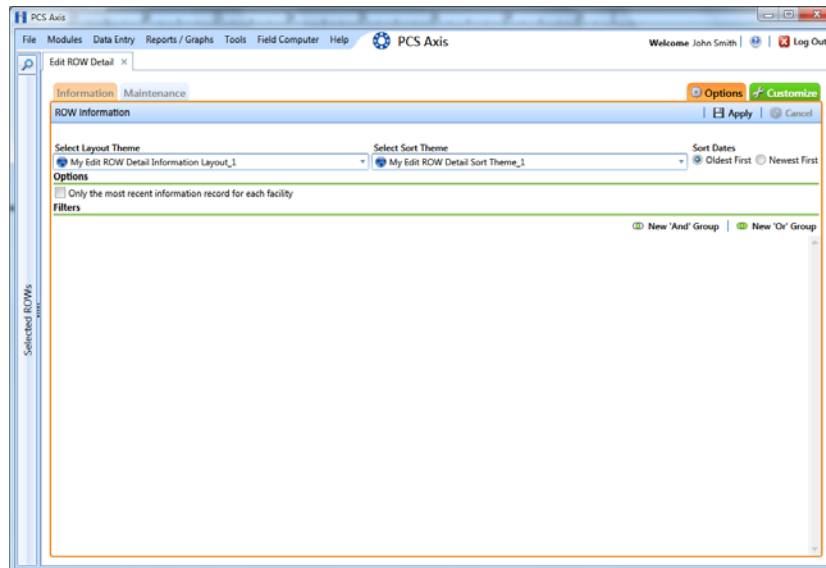

Figure 3-27. Options
- a Click the **Options** tab  to open the options page (Figure 3-27, page 116).